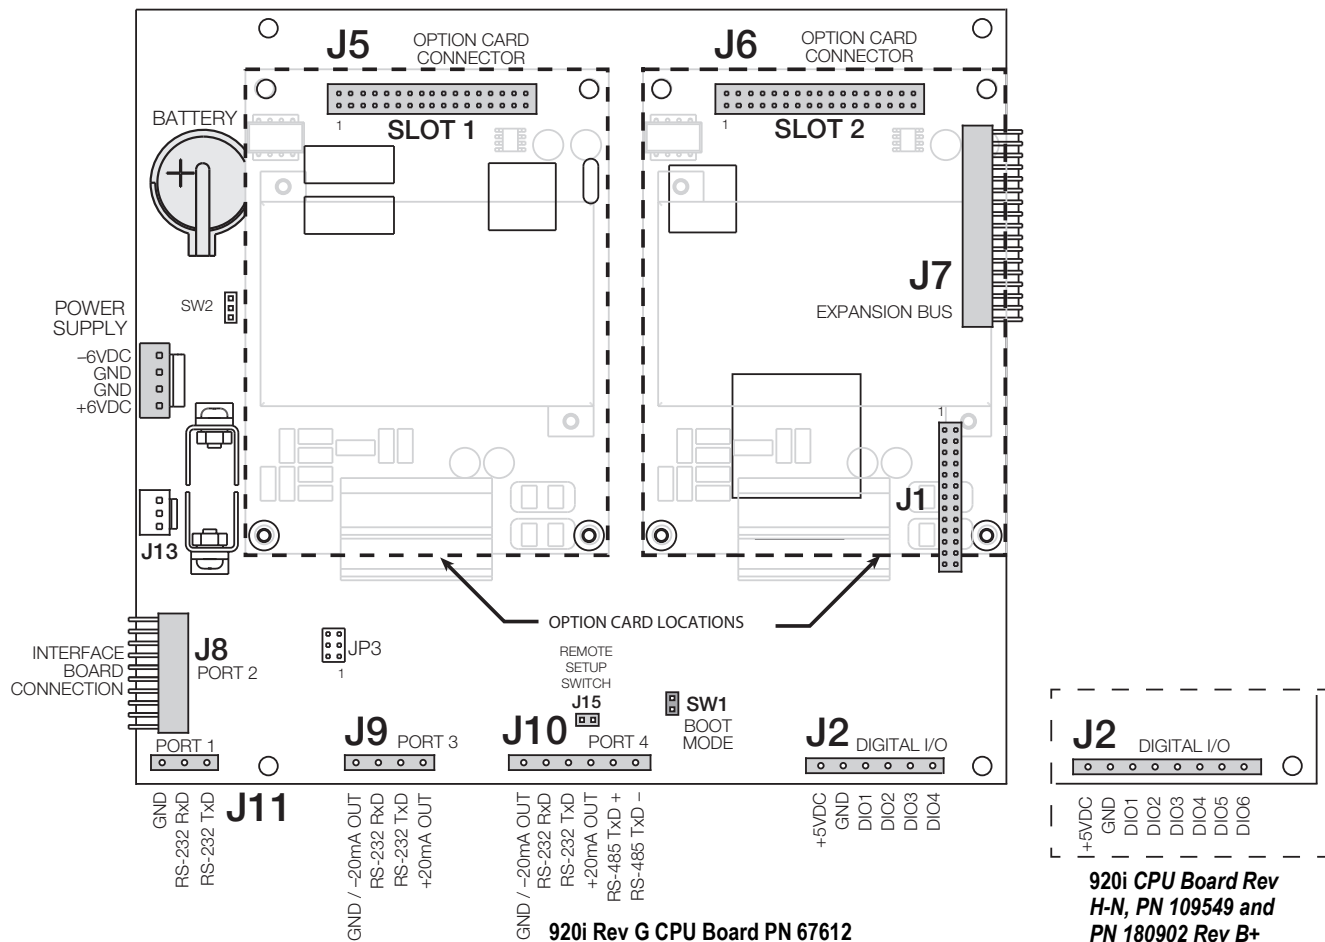

Figure 3-7. 920i CPU Board
7. Locate the battery inserted in the CPU board. See Figure 3-7 on page 24.